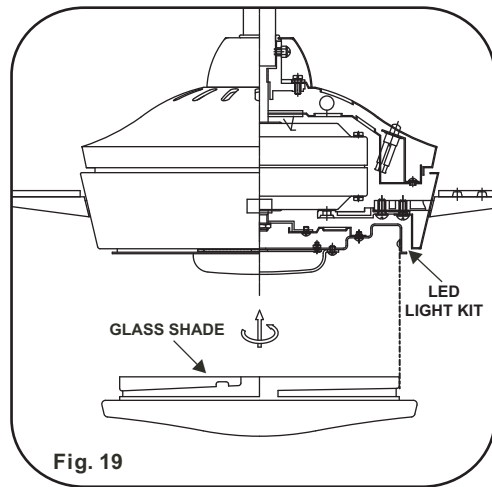

Fig. 19
Step 1. Raise the glass shade up against the LED light kit and secure it to the fan by turning the glass shade clockwise until snug. **DO NOT OVERTIGHTEN.** (Fig. 19)